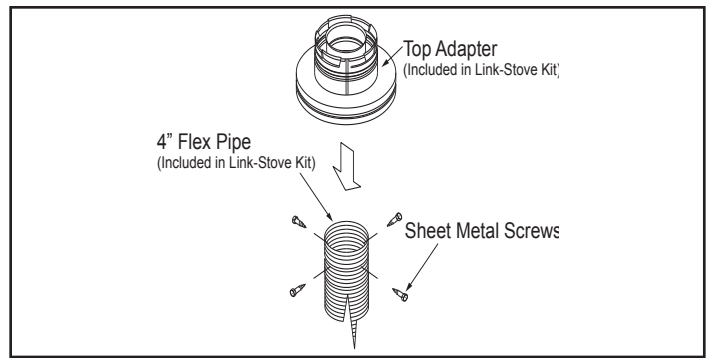

Figure 4.21
3. Connect the end of the flex pipe section to the underside of the top adaptor, using four sheet metal screws, Figure 4.21.
5. Connect the flex liner to the top adapter using three sheet metal screws, Figure 4.21.